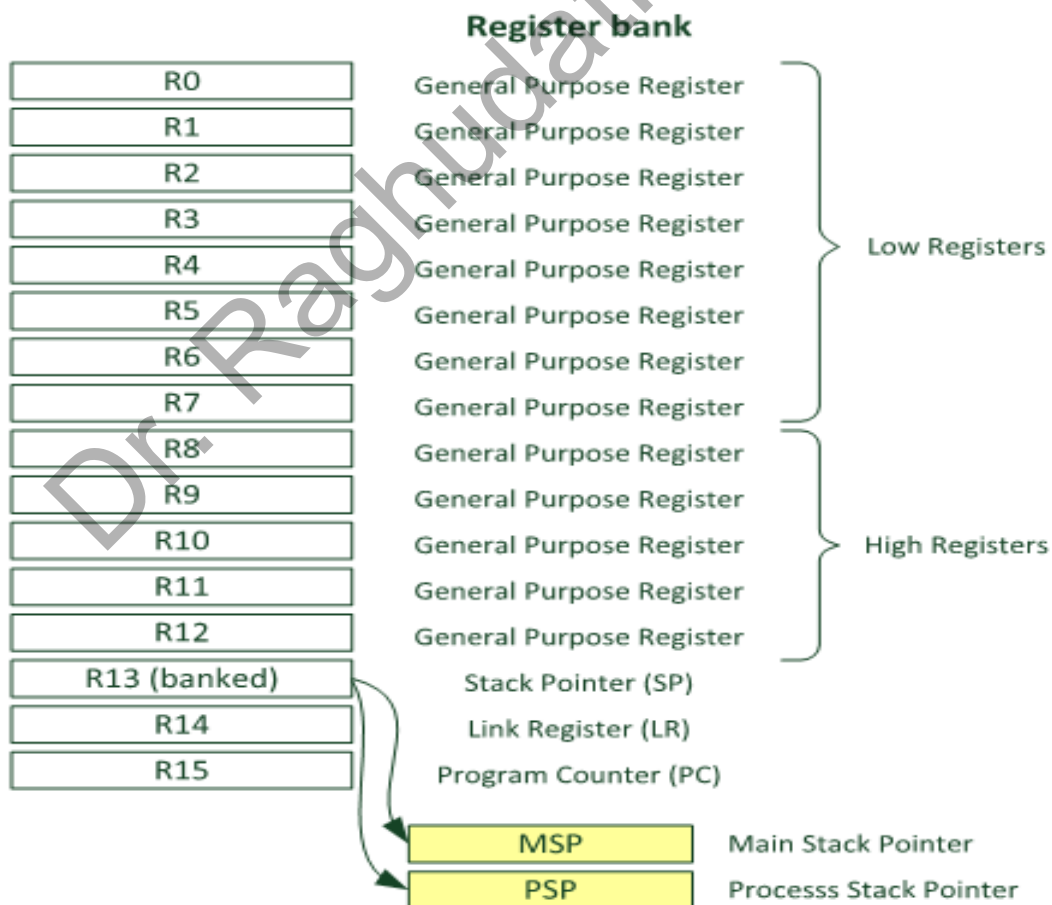

Figure 3: Registers in the Register Bank
- Thirteen of them are general purpose 32-bit registers, and the other three have special uses, as can be seen in Figure 3.